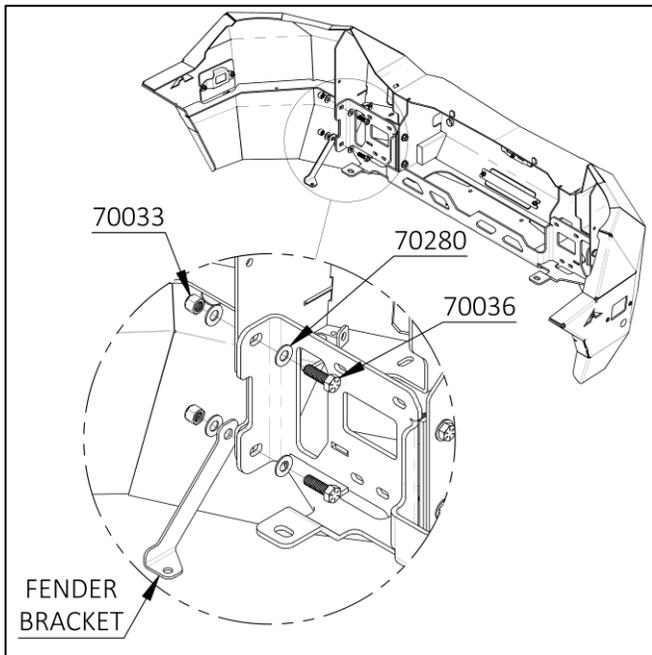

Figure 23: Outer Winch Cradle Install (1/2 Fasteners)
31.  Loosely install the 1/2-13 X 1 1/2 HHCS, washers, and locknuts to the upper slot on both outer flanges. Loosely install the FENDER LINER SUPPORT BRACKETS [351196-LEFT / 351196.1-RIGHT] onto the outer flanges utilizing the lower slot using the remaining 1/2" hardware. Install an OEM push-pin into each bracket and the inner push-pin hole of the wheel liner. **See Figure 23.**
33.  Reinstall the grille, locate into the grille tabs on the bumper and reinstall the (3) OEM screws along the top of the grille using a T25 driver.